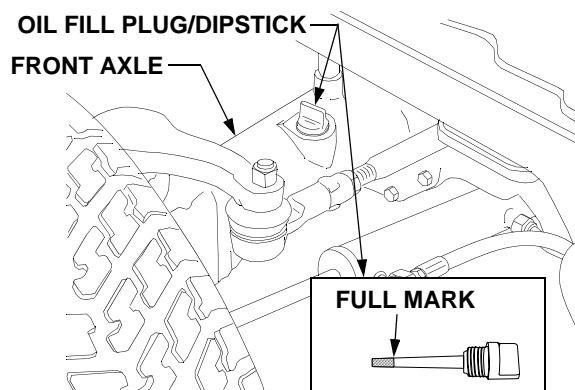
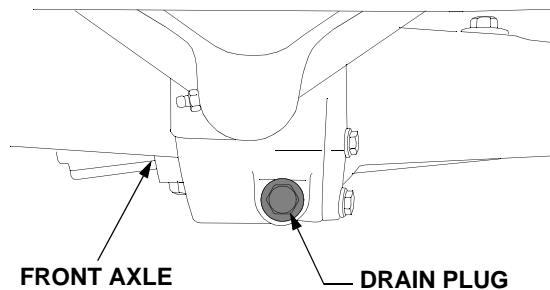

Figure 44
Figure 46
- The oil fill plug/dipstick is located on the *left* side of the axle housing. See Figure 44.
- Clean the area around the oil fill plug/dipstick to prevent debris from entering the axle housing. See Figure 44.
- Withdraw the dipstick and wipe it clean, then reinsert and screw in all the way. Unscrew and withdraw again to read the oil level. Always keep the oil level between the bottom and the full mark of the dipstick (See Figure 44).
- To prevent debris from entering the front axle housing, clean the area around the oil fill plug/dipstick and the axle drain plug located at the center front of the axle. Refer to Figure 44 and Figure 46.
- Remove the oil fill plug/dipstick to help vent the axle, then remove the drain plug and allow the oil to drain into the container. Reinstall the drain plug after draining the oil. See Figure 46.